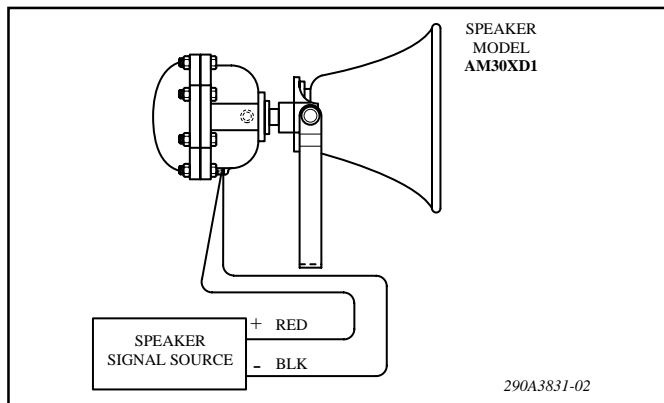

Figure 2. Typical Installation Wiring.
- a. Connect the audio common leads (-) to the speaker's common terminal (marked COM). Refer to figures 2 and 3.